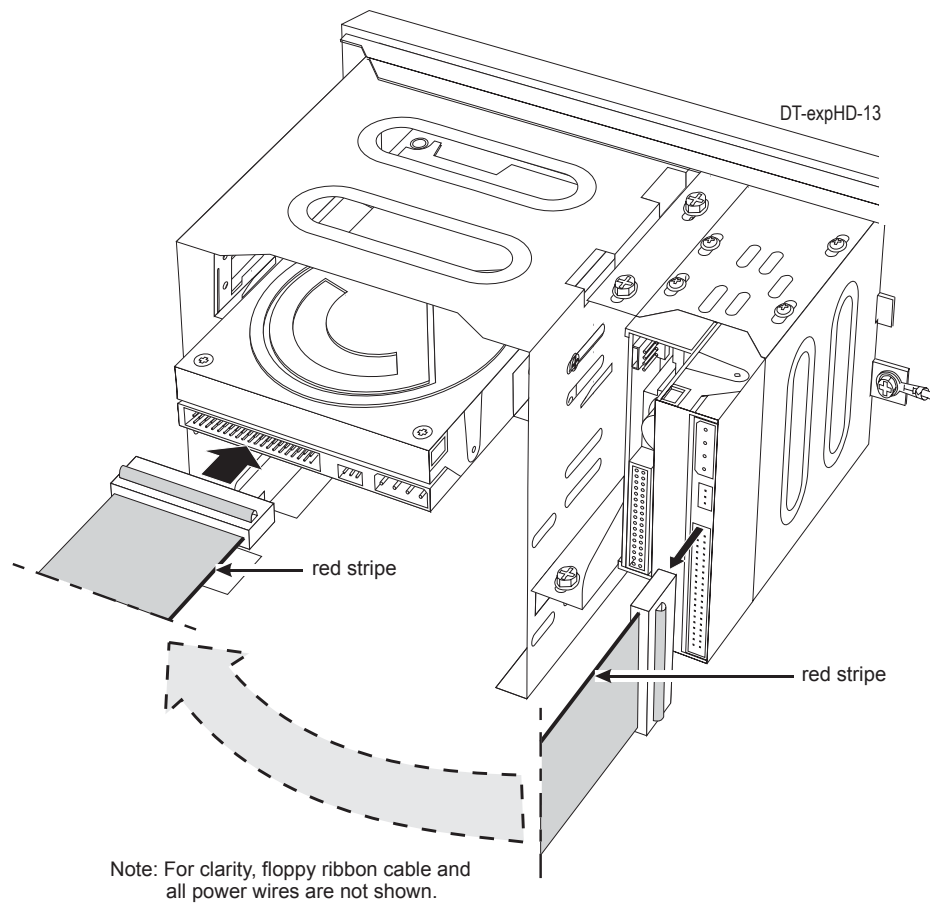

Figure 12
15. Plug the **end connector** of the ribbon cable into the **expansion** hard drive. See Figure 12.